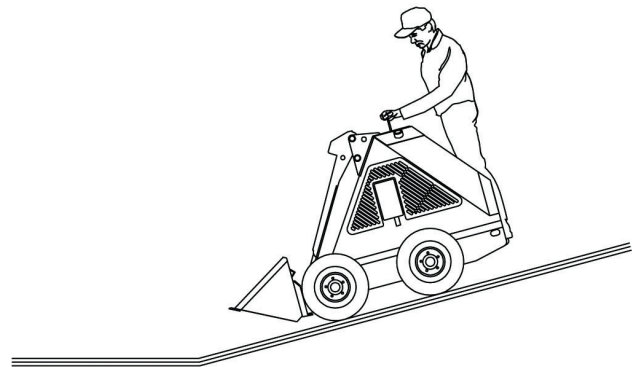
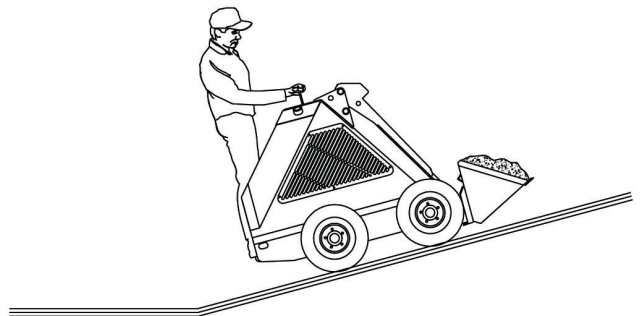

Figure 10 - Empty Bucket
Figure 11 - Full Bucket
5. When driving on slopes keep the heaviest end of the Mini-Skid upward. When driving on a slope with an empty bucket, back up the slope in reverse, and drive down a slope forward as in Figure 10. When driving on a slope with a load, drive up the slope forward and back down the slope in reverse as in Figure 11.